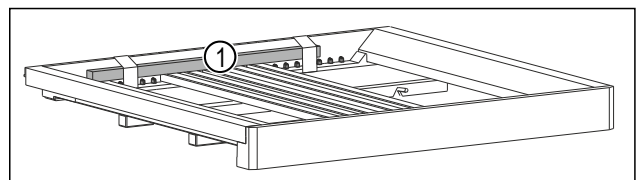

Fig. 3 *
- ▶ Remove the wooden stick Fig. 3 (1)*